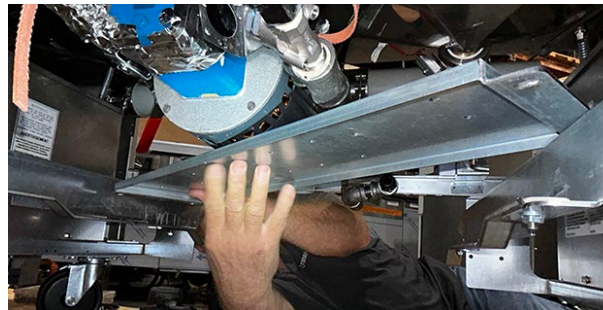

Figure 1
- The dispose assembly will be installed to the left of the filter motor. Check to see that the dispose assembly bracket holes match up with the holes in the filter pump motor bridge, if not, the bridge will need to be rotated 180 degrees (see Figure 1).